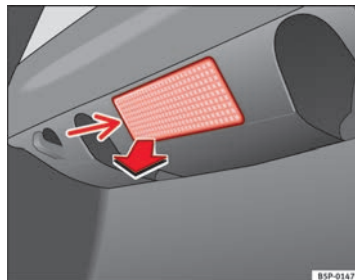

Fig. 191 Luggage compartment light
- Remove the bulb by pressing on the inside edge of this -arrow- using the flat side of a screwdriver ⇒ fig. 191.